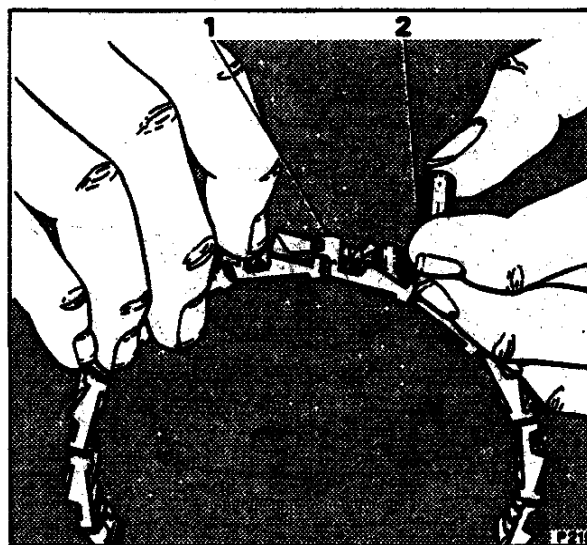

Fig. T122 Fitting a roller to the roller clutch cage
22. Fit the rollers that may have come out of the roller clutch cage, by compressing the energising spring with the forefinger and inserting the roller from the outside (see Fig. T122).